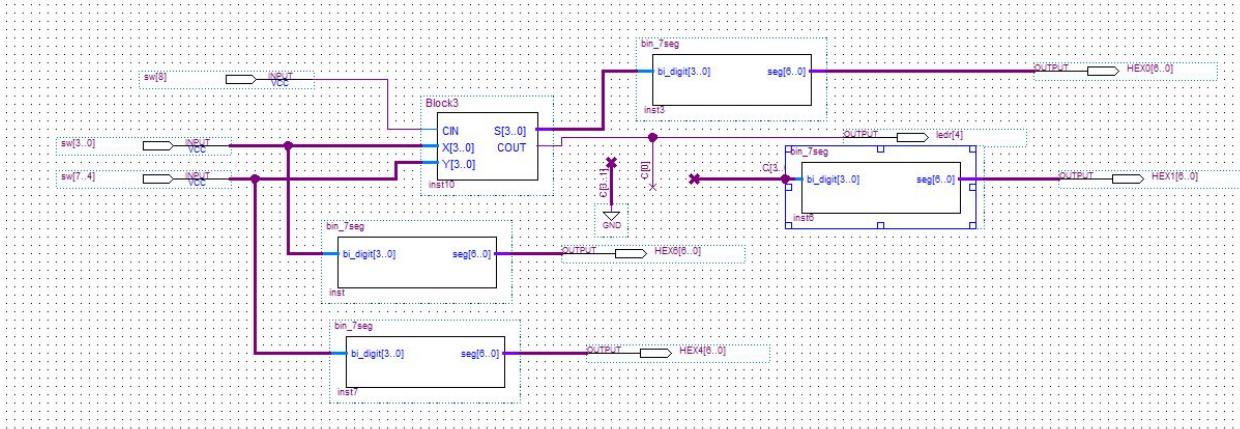

Figure 6. RCA
- We created a symbol name RCA (as shown in Figure 6) based on the circuit that we created in last lab.